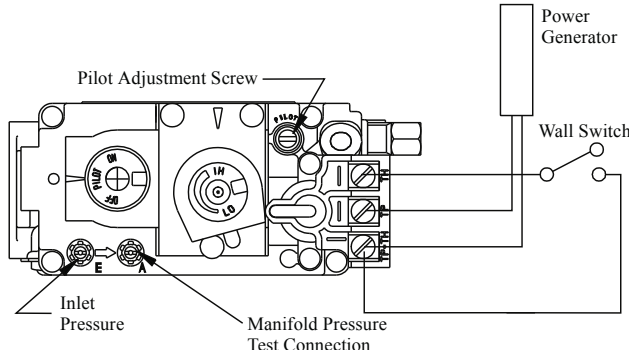

Figure 33. Sit Nova 820 gas valve.
1. Locate Pilot Adjustment Screw. (See figure 33.)
Pilot won't ignite	Disconnect remote wires and try to light pilot. If pilot now works, remote connections are faulty. Check wiring diagram figure 33.
Main burner will not light	<ol style="list-style-type: none"> 1. Check wiring (see figure 33). 2. Check wall switch for proper connection.